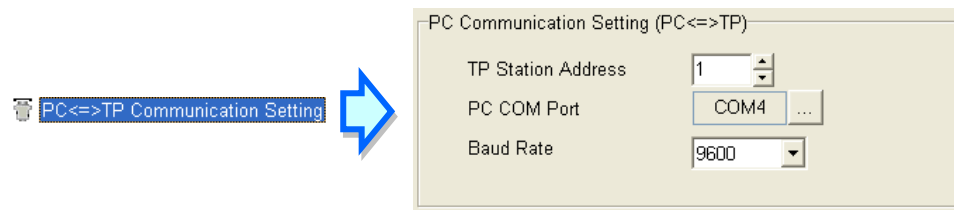

Figure 6-2 Setting communication in a computer
**Station Address** box, a communication port in the **PC COM Port** box, and a data transmission speed in the **Baud Rate** drop-down list box, as shown in Figure 6-2. The station address selected in the **TP Station Address** box must be the same as the station address set in the TP04G series text panel.